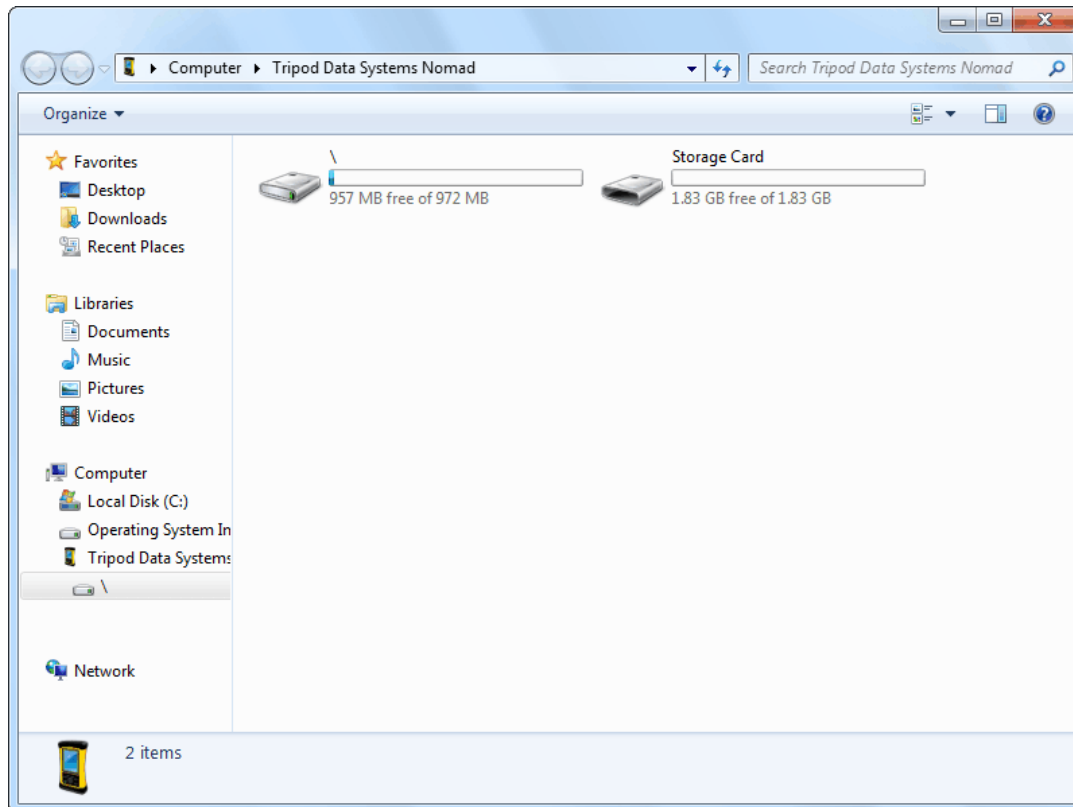

Figure 80. The trans-SPEC Computer's Top-Level File Structure.
- 5) Windows Explorer will open and the Detective-EX’s computer will be listed as shown in Fig. 80. Stored search and identification files will be located in the SD card’s **Data** folder or in the **My Documents** folder, depending on the location set on the Spectra dialog (see Section ?).